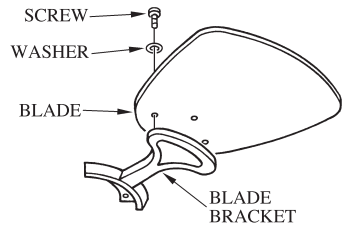

FIG.7
1. Install the screw, washer, blade and blade bracket together & tighten them securely (see Fig.7)